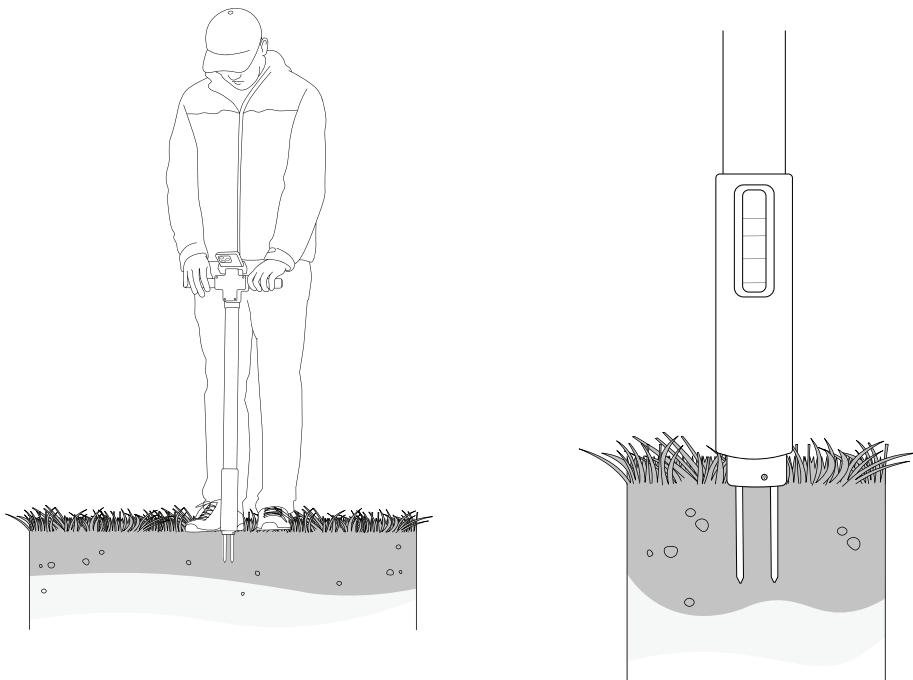

Figure 5 Insert SOLYX GO into the ground to take measurement
4. Go to the desired location for soil test and insert the SOLYX GO fully into the ground (Figure 5).